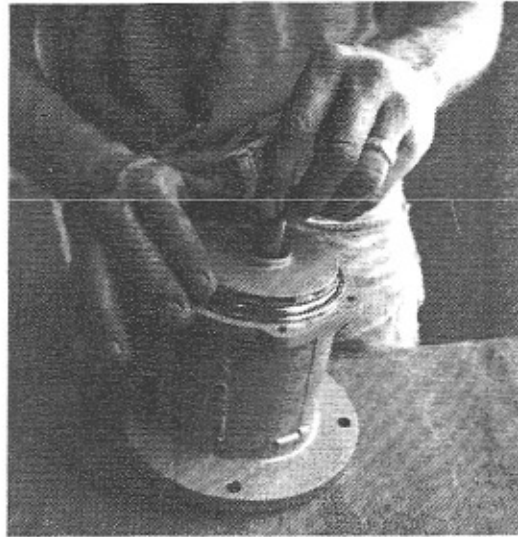

Figure 30
- C. Carefully guide the shaft (Part No. 8) [Fig. 30] into the inner magnet assembly with the short, flat end up.